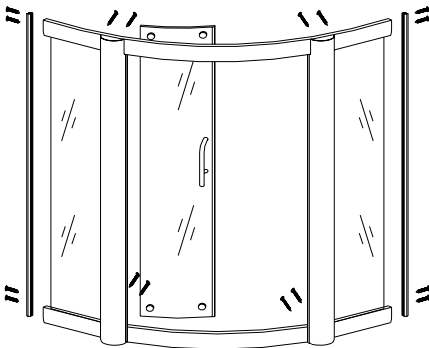
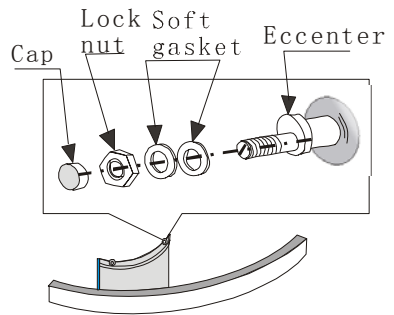

Fig.4
Fig.5
3. Connect the big pillar and the low guide rail with ST4x30 tapping screw, put the fixed glass, the upper rail and the side pillars in their position, connect them with ST4x25 tapping screws. Penetrate the eccentric wheel into the holes of the sliding door, There must be soft gaskets at both sides, tweak the screw nut slight tightly, And then hang up the sliding door to the notch of the upper and the lower rail. And adjust eccentricity to make the sliding door parallel, vertically. The under parts of the sliding door is apart from the basin about 3 to 8mm. After sliding freely, screw the nut tightly. then put door plastic strip  in the guide rail's notch. Make up glass assembly, (Fig.4, Fig.5). May install the sliding door after step 7.